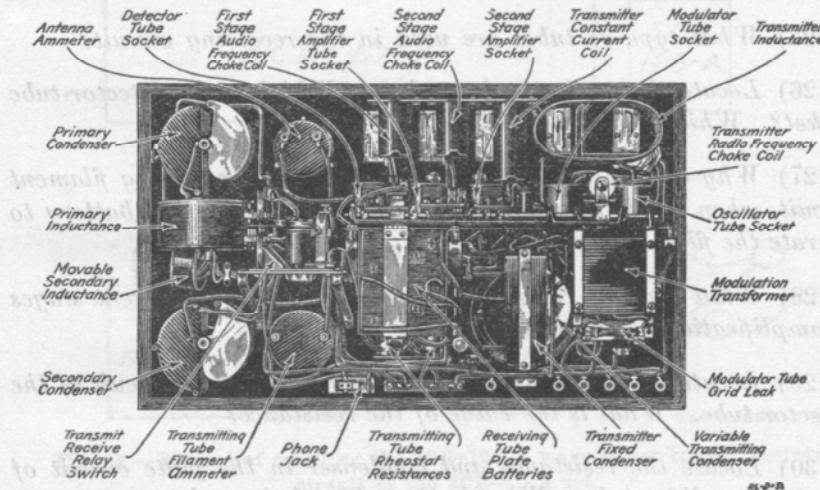

Fig. 81.—Interior of set box BC-13-A, showing parts mounted on back of panel.
4. Unfasten the hooks on the side of the set box and pull the panel forward. (See Fig. 81.) Inspect the parts in the rear of the panel carefully. Move the control knobs on front of the panel and note what moves in the rear.